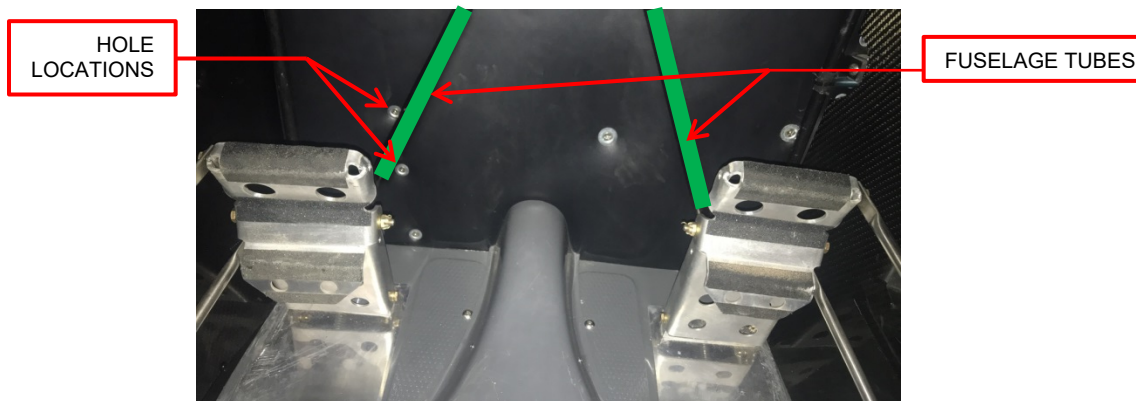

Figure 3 - Firewall Blanket Hole Locations
11. Find the 2X holes in the firewall from the cabin side. They will be on either side of the left cross tube near the bottom; see Figure 3. It may be required to poke through each hole with a straight pick from the forward side of the firewall to find the holes in the firewall blanket.
14. Install the flexible hose assembly, CubCrafters' Part Number VP5006-017, between the gascolator and the fuel filter. Torque both connections 110-130 inch-pounds. Reference Figure 3.